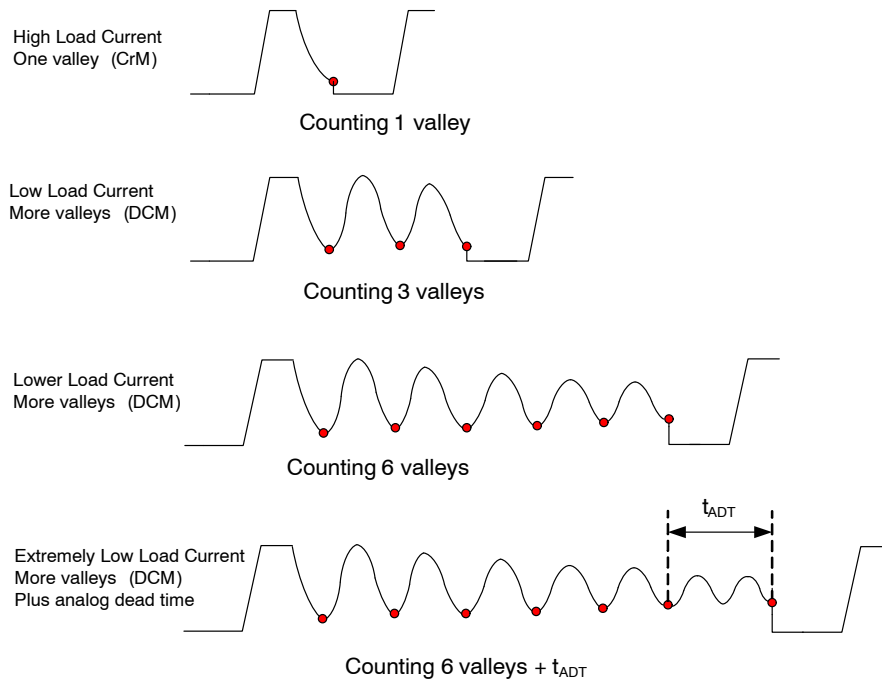
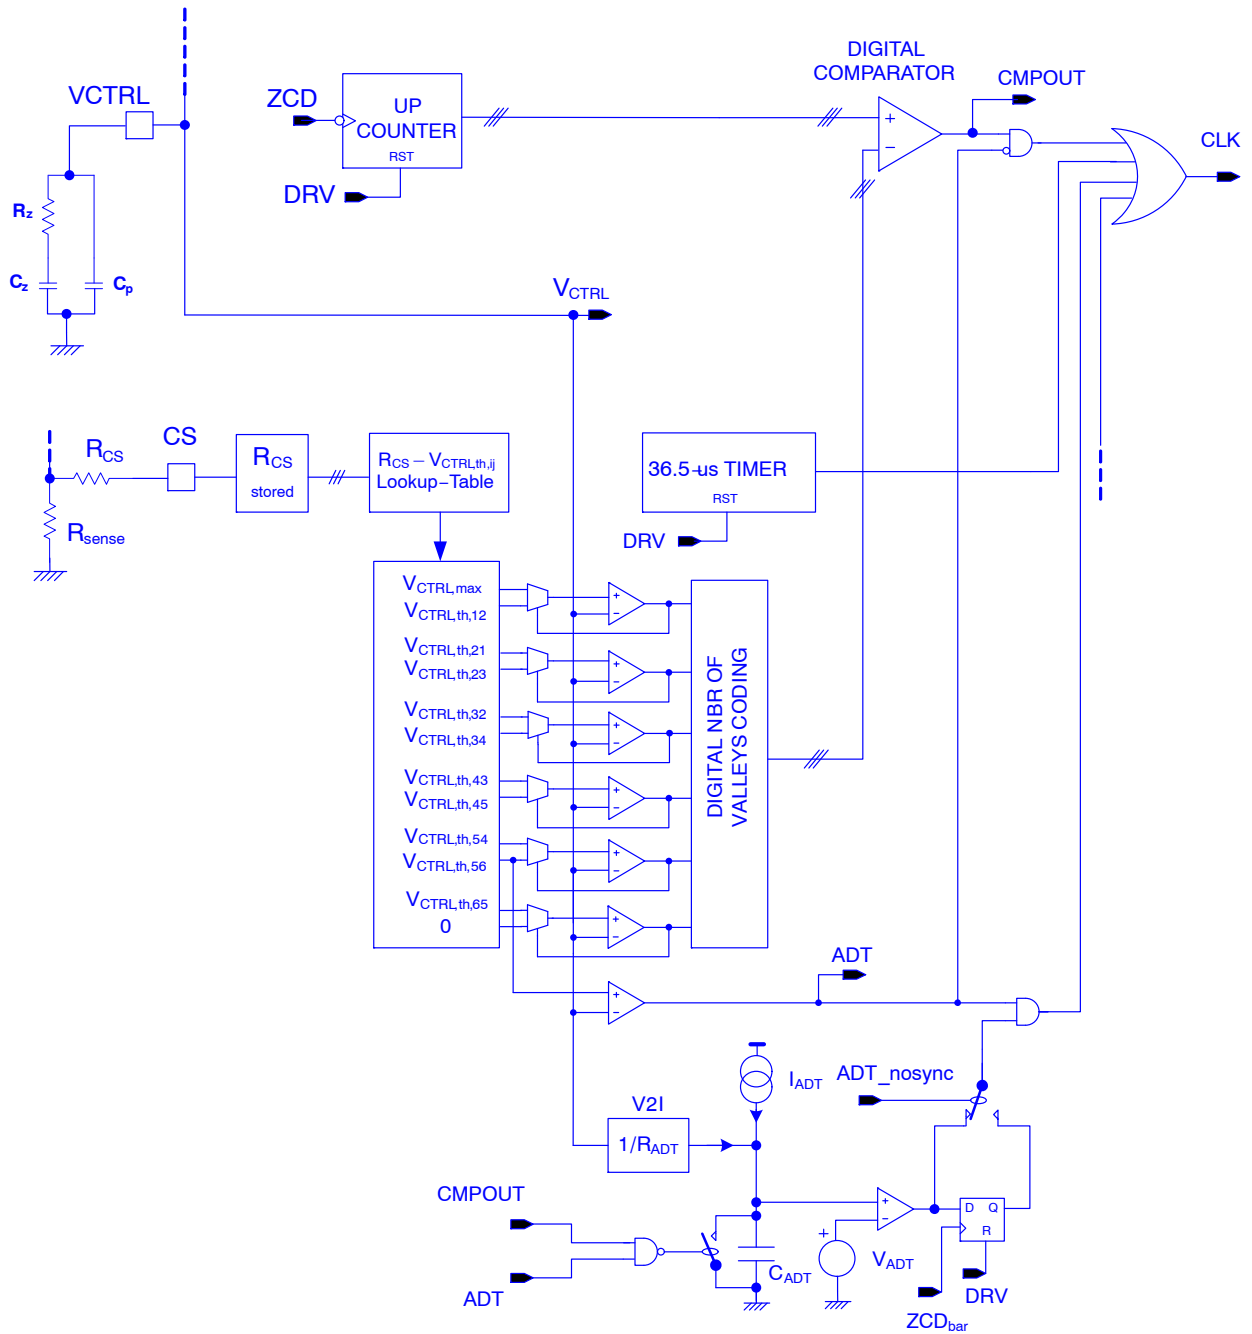
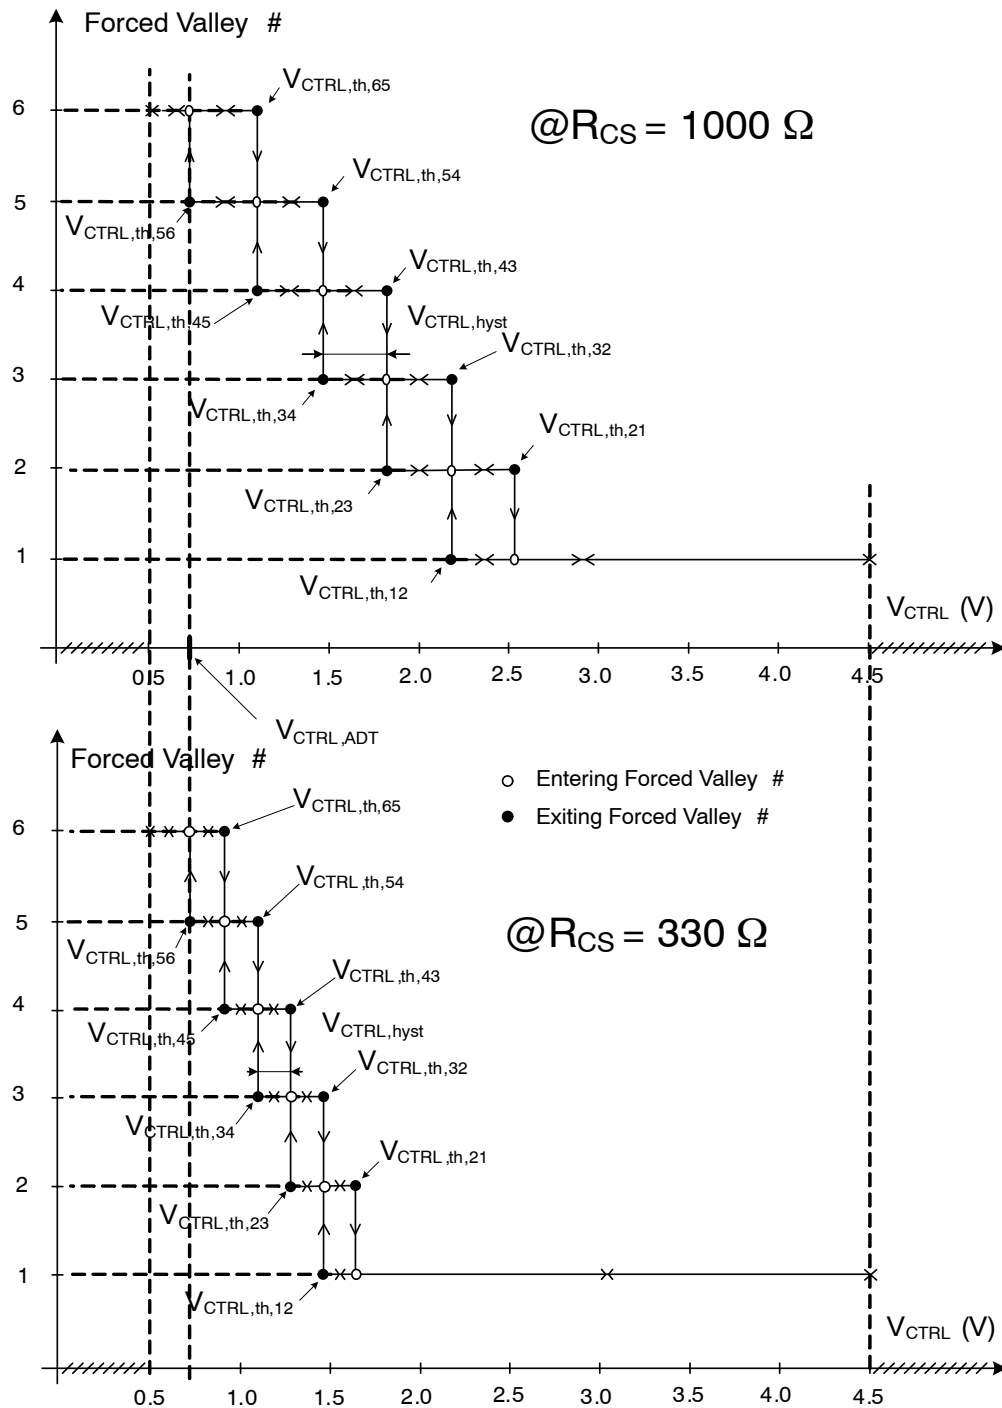

Figure 3. Valley Switching Operation in CrM and DCM Modes Seen Through Power MOSFET Drain Voltage
Figure 4. Valley Count Turn-on Block Diagram
Figure 7. Forced Valley Number versus VCTRL Pin Voltage For a Two Different RCS Values of the Mandatory List {150 Ω, 330 Ω, 620 Ω, 1000 Ω}
- **Valley Count Frequency Fold-back:** NCL2801 is designed to drive PFC boost stages in so-called Valley Count Frequency Fold-back (*VCFF*). In high load current condition, the circuit classically operates in *Critical conduction Mode (CrM)* also called 1st valley switching. When output power is decreasing, if a threshold is reached (determined by sensing the CS pin impedance during initial power up), a dead time based on a number of valleys is added. The number of valleys will increase, each time a dead time window (based on V_{CTRL} value) is entered. By construction, this counting process will avoid valley hopping during the mains voltage period. If the output power continues decreasing and the 6th valley is reached, extra “analog” dead time will be added based on a voltage ramp (see Figure 4). On-time will be synchronized with a valley. A timer will clamp the total switching period to not exceed 36.5 μ s (the switching frequency will never go under about 27.4 kHz). The switching frequency depends on output voltage, input voltage, and boost inductor value, and increases as the load power increases. Hysteresis is added to the V_{CTRL} control windows to avoid valley hopping during steady state conditions. *VCFF* maximizes the efficiency at both nominal and light load. Similarly to *FCCrM* controllers, an internal circuitry allows near-unity power factor even when the switching frequency is reduced.
valley number count up to 6 valleys (the number of valleys between end of inductor demagnetization and power MOSFET turn-on determines the dead time value). After counting is done, the power MOSFET turns on at drain voltage valley. When 6th valley is reached and VCTRL voltage stays under 0.77 V, an extra “analog” dead time is added based on a voltage ramp (see Figure 4). The added analog dead time t_{ADT} is based on 0.77 V minus VCTRL value. t_{ADT} will be equal to zero when $(0.5 \text{ V} - V_{CTRL}) = 0 \text{ V}$ and will increase monotonically versus VCTRL decreases while VCTRL is under the 0.77 V threshold corresponding to $V_{CTRL,th,56}$. The analog dead time added t_{ADT} will equal typically 20 μs when $V_{CTRL}=0.5 \text{ V}$.
As illustrated in Figure 3, under high load conditions, the boost stage is operating in CrM (only one valley is counted before turning on the power MOSFET). The second example shows a DCM state of operation where 3 valleys have been counted before turning on the power MOSFET. The third example shows a DCM state with lower output power than the previous one where 5 valleys have been counted before turning on the power MOSFET. The fourth example shows how additional dead time is added after 6th valley.
means of counting the falling edges of the ZCD signal until the counter reaches the number of valleys set by the window in which the VCTRL pin voltage is (see Figure 4). The 3-bit counter allows to work “Valley synchronized” up to 6 valleys. When the 6th valley is reached, and VCTRL is lower than 0.770 V ($V_{CTRL,th,56} = 0.770$ V whatever frequency foldback threshold setting), an additional analog dead time will be added to the 6 valleys dead time and there will be valley synchronization turn-on of the power MOSFET ($ADT_nosync = 0$ by default) based on falling edge of ZCD signal. The total dead-time (number of valleys and extra analog dead-time) will not exceed 36.5 μ s. As a result of this timer the minimum switching frequency will not go under 27.4 kHz.
There will be a different DCM to CrM threshold than CrM to DCM making an hysteresis to avoid valley hopping (see Table 7 and Figure 4).
As shown in Figure 7, the forced number of valleys, shown in the Y-axis, depends on 5 VCTRL pin voltage windows,
results from output power decrease. We can also mention looking at Figure 7 and the specified frequency foldback thresholds of Table 7 that $V_{CTRL,th,56}$ which is the V_{CTRL} threshold at which we force counting 6 valleys, has always the same value. This threshold is also called $V_{CTRL,ADT}$ because when V_{CTRL} pin voltage falls under this threshold, an analog dead-time starts to be added to the dead-time determined by counting 6 valleys. The lower V_{CTRL} pin voltage goes under $V_{CTRL,ADT}$ threshold, the more analog dead time is added. An example on how the analog dead time can be added is shown in the circuit of Figure 4 and the correspond power MOSFET drain voltage is shown in Figure 3.